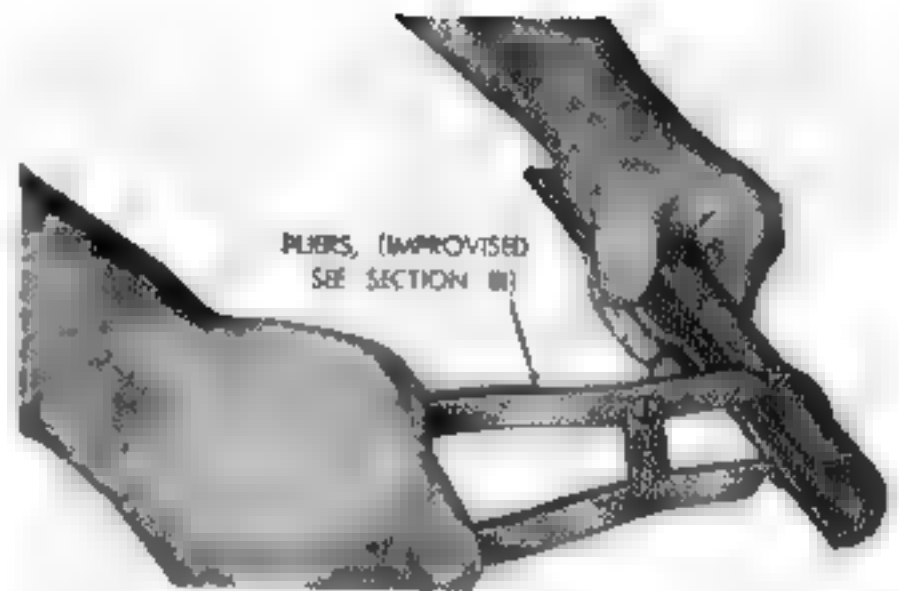

Fig. 161. Assembling and removing band.
91. Hand guards: it is not necessary to replace a rear or front hand guard if it is serviceable and holds firmly in position. When replacing a front hand guard, shave the new guard to a tight fit into the ferrule of the lower band. Use improvised tool (Fig. 161) to seat the band. If the rear hand guard is loose, remove and spring the band together slightly using the improvised tool, and refit the guard. Restake a loose band pin, or replace and stake. If a front guard spacer is defective, replace hand guard.